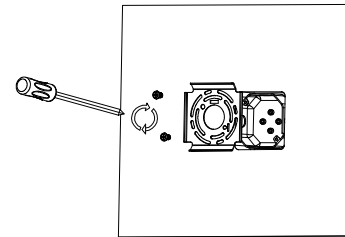

Fig 2
2. Install the mounting bracket to the junction box. (Fig 2)